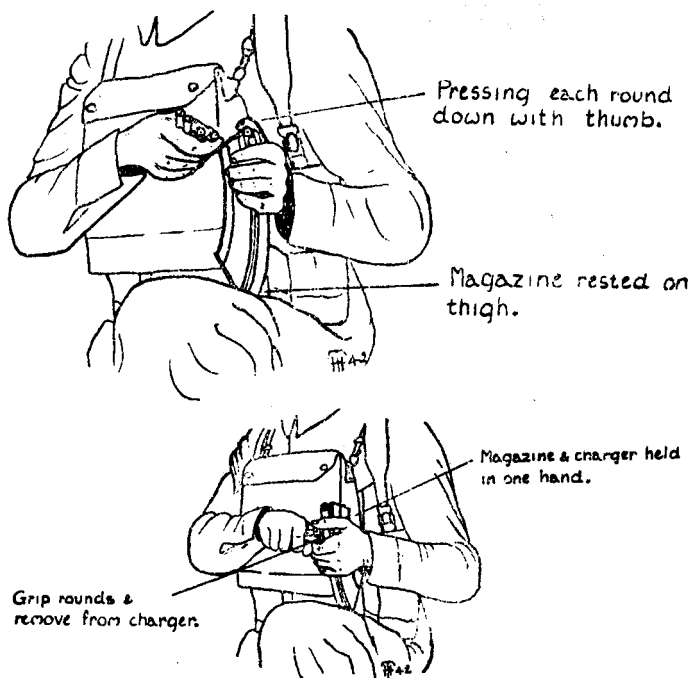

Fig. 1
1. Magazine filling (see Fig. 1).